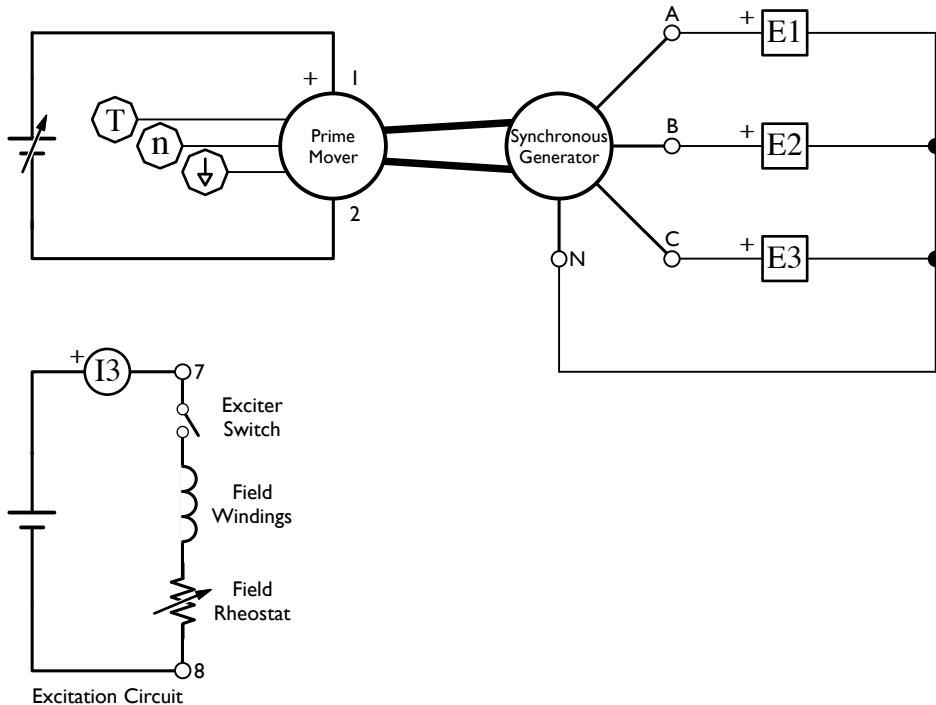

Figure 5.4: Synchronous Generator, No Load, Phase Voltages
- 6. Connect the equipment as shown in Figure 5.4.